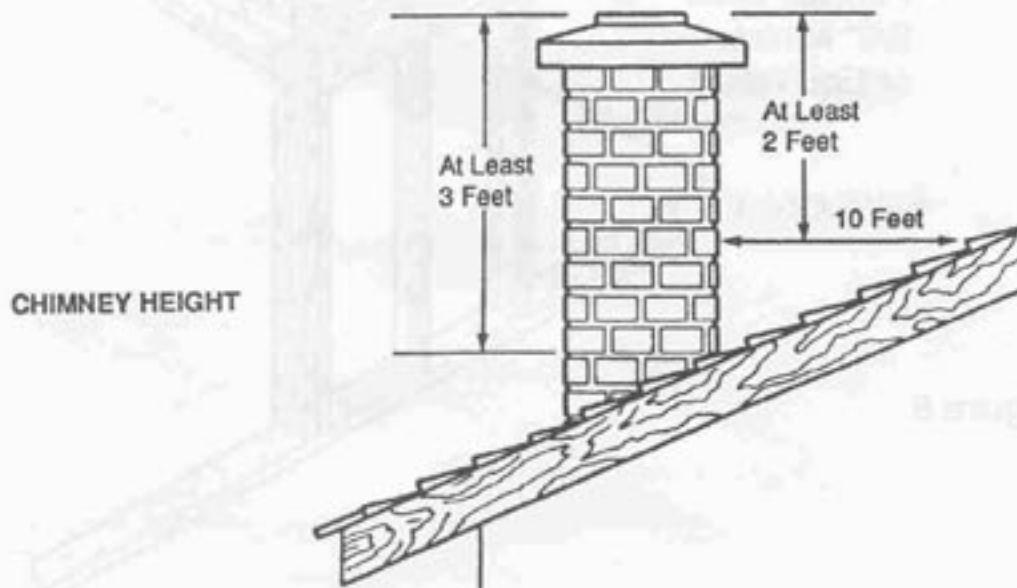

Figure 7
• A chimney must be the required height above the roof or other obstruction for safety and for proper draft operation. The requirement is that the chimney must be at least 3 feet higher than the highest point where it passes through the roof and at least 2 feet higher than the highest part of the roof or structure that is within 10 feet of the chimney, measured horizontally (FIGURE 7).